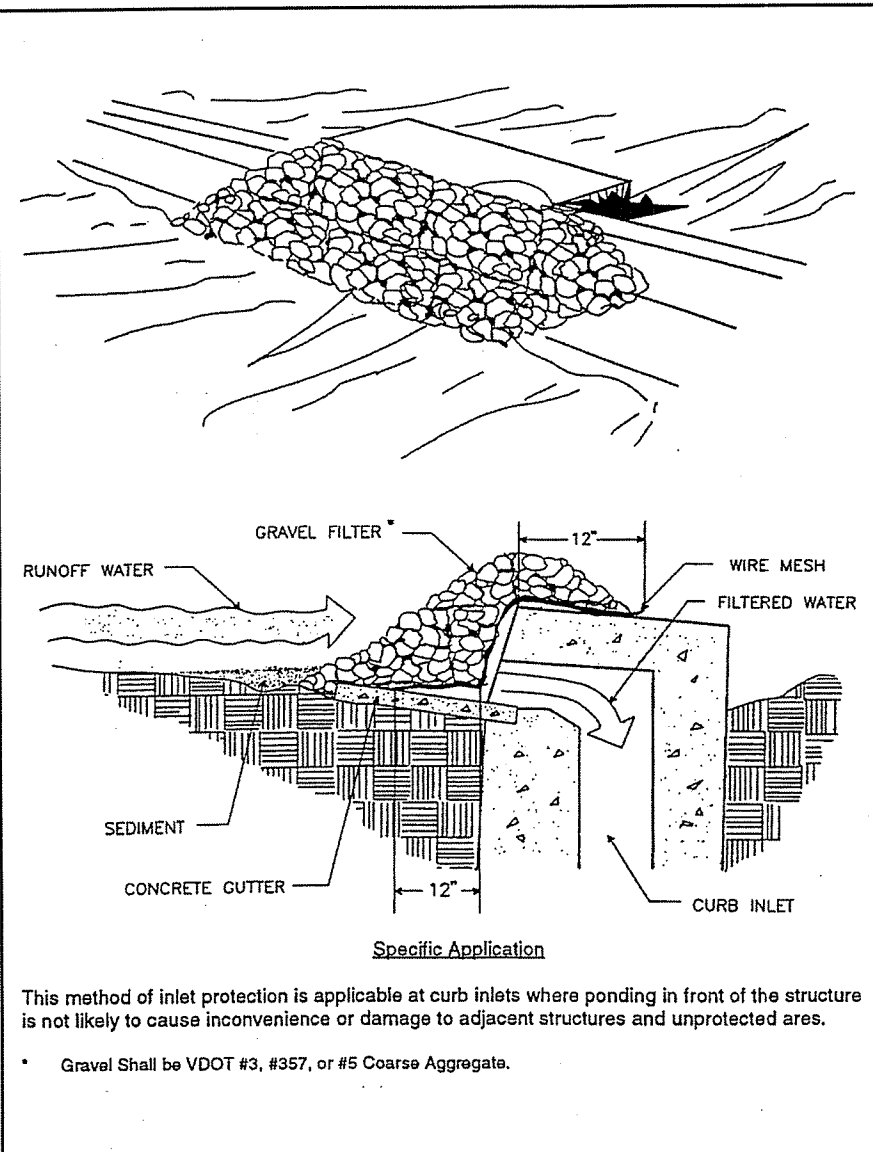

Figure 4.5g. Gravel Curb Inlet Sediment Filter
1. Hardware cloth or comparable wire mesh with 1/2 inch (13 mm) openings shall be placed over the curb inlet opening so that at least 12 inches (30 cm) of wire extends across the top of the inlet cover and at least 12 inches (30 cm) of wire extends across the concrete gutter from the inlet opening (see Figure 4.5g).